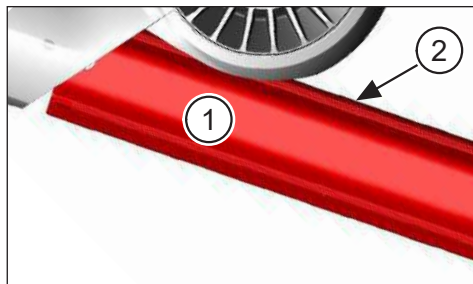

Fig. 14: Aligning the battery
- ▶ Align the battery (No. 1 in Fig. 14) so that the groove (No. 2 in Fig. 14) in the battery is aligned with the guide in the down tube.